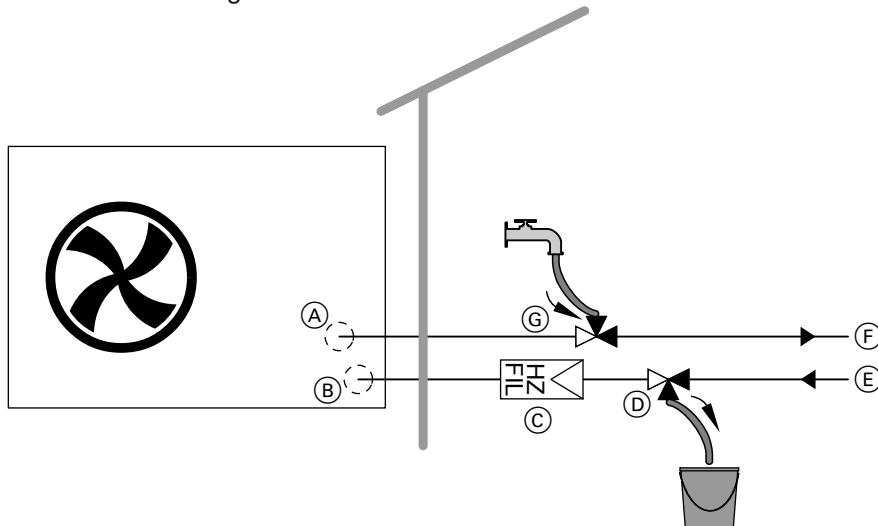

Fig. 32
- (A) Heating water flow from the outdoor unit
- (B) Heating water return to the outdoor unit
- (C) Heating filter (on site or part of standard delivery for outdoor unit)
- (D) 3/2-way ball valve in the heating water return of the outdoor unit (on site or standard delivery): Open in the direction of the outdoor unit
- (E) From the secondary circuit
- (F) To the secondary circuit
- (G) 3/2-way ball valve in the heating water flow of the outdoor unit (on site or standard delivery): Open in the direction of the outdoor unit
1. Connect the fill hose to the 3/2-way ball valve (G) in the heating water flow of the outdoor unit.
2. Connect the drain hose to the 3/2-way ball valve (D) in the heating water return of the outdoor unit. Route the hose into a suitable container or drain outlet.
3. Open both 3/2-way ball valves in the direction of the consumer circuits: See Fig. 32